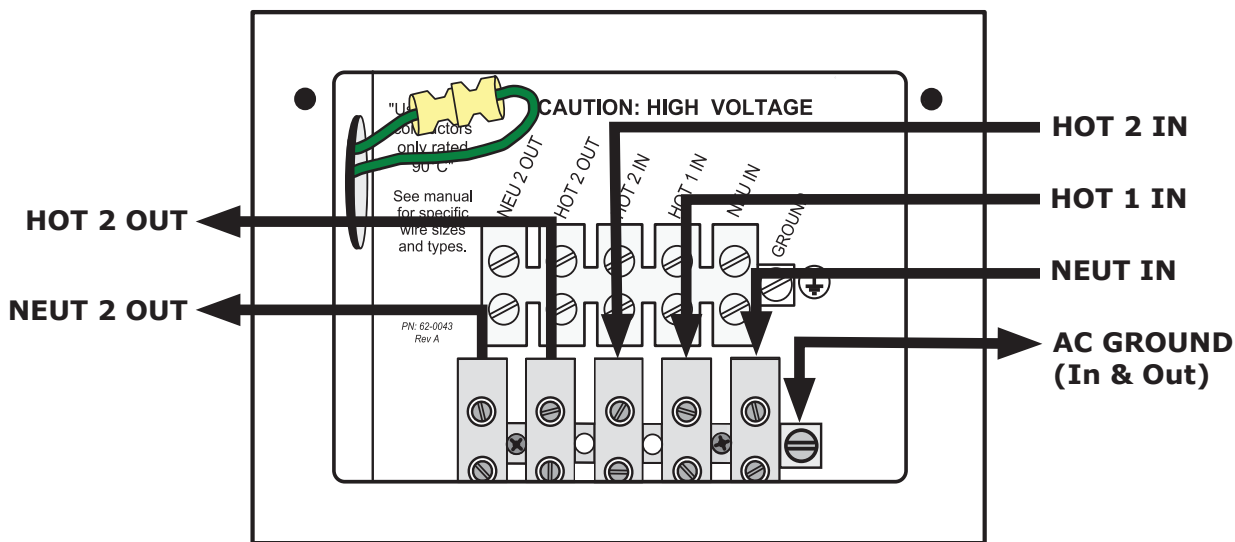

Figure 2-10, AC Terminal Block (MS2012-G/MS2812-G/MS4024-G)
The MS2012-G, MS2812-G, and MS4024-G models have a five-pole AC terminal block and one AC ground terminal to connect the inverter's AC input and output wiring. This terminal block (see Figure 2-10) allows a service/distribution panel (main panel) to be wired to the inverter's input, and also allows a dedicated panel (sub-panel) between the inverter's output wiring and the AC loads. To access and view the AC terminal block and ground terminal, remove the two Phillips screws holding the AC wiring access cover plate (see Figure 1-3, Item 15).
1. Remove the two Phillips screws on the AC wiring access cover (Figure 1-3, Item 15) to access the internal AC terminal block (see Figure 2-10).